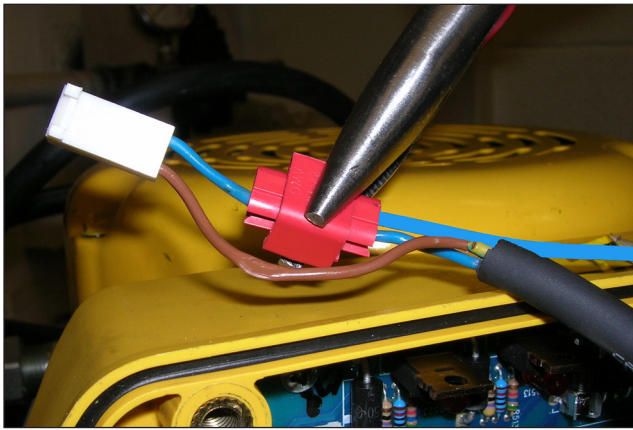

Figure 11, Crimping the Splicing Connector
15. Fold over the splicing connector tab and crimp the connector with a needle nose pliers. See Figure 11. Be sure that the tab is fully closed and firmly engages with the connector body.